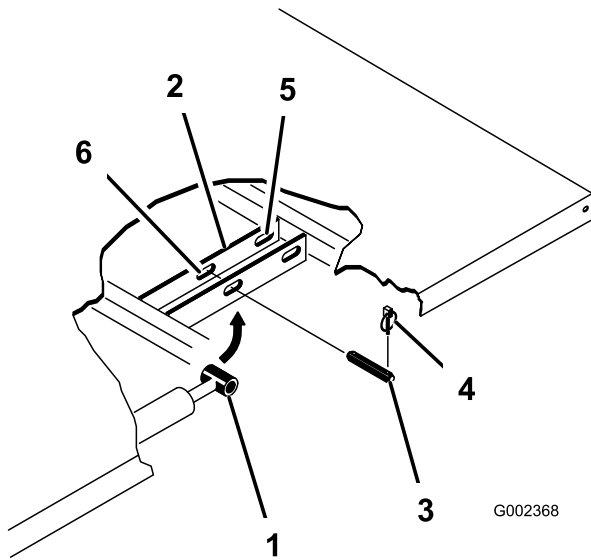

Figure 29
3. Remove the lynch pins from the outer ends of the cylinder rod clevis pins (Figure 29).
4. Remove the clevis pins securing the cylinder rod ends to the bed-mounting plates by pushing the pins toward the inside (Figure 29).
5. Remove the lynch pins and clevis pins securing the pivot brackets to the frame channels (Figure 29).